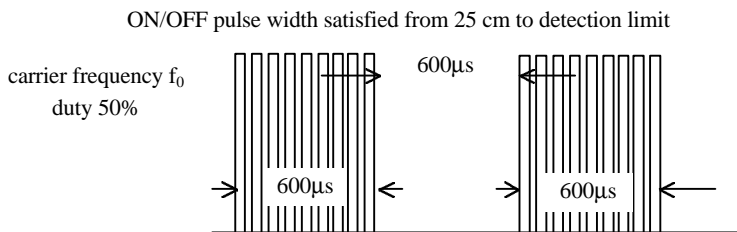

Fig 1. Burst Wave
- (1) Measuring placeIndoor without extreme reflection of light.
- (2) Ambient light source .. Detecting surface illumination shall be 200±50Lux under ordinary hite fluorescense lamp of no high frequency lighting.
- (3) Standard transmitter ...Burst wave indicated in Fig 1. of standard transmitter shall be arranged to 50mVp-p under the measuring circuit specified in Fig 2.